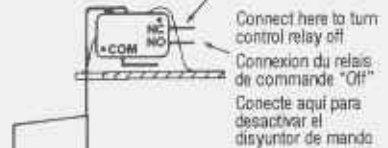

Fig. 2
- Safety switch-the safety overflow switch should be connected to a class II low voltage circuit. Typical hook-up of "NC" circuits would be (Figs. 2 & 3):